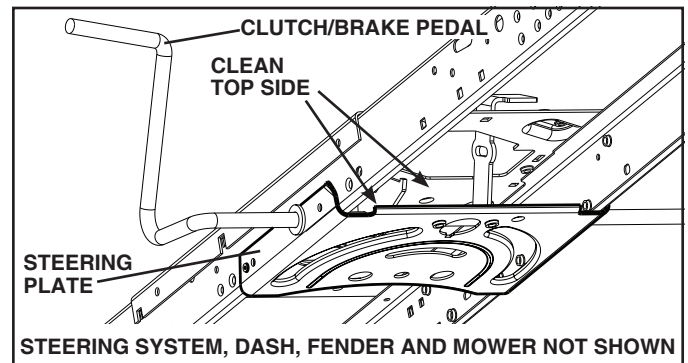

Fig. 32
- Clean debris from steering plate. Debris can restrict clutch/brake pedal shaft movement, causing belt slip and loss of drive. See Fig. 32.